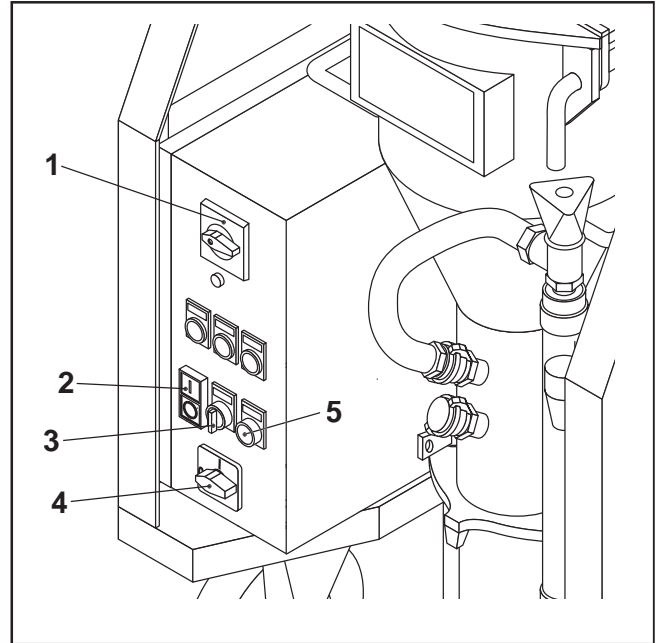

FIG.18
- Check that the dispenser switch (FIG.18-REF.4), the master switch (FIG.18-REF.1) and the water pump switch (FIG.18-REF.3) are in position zero.